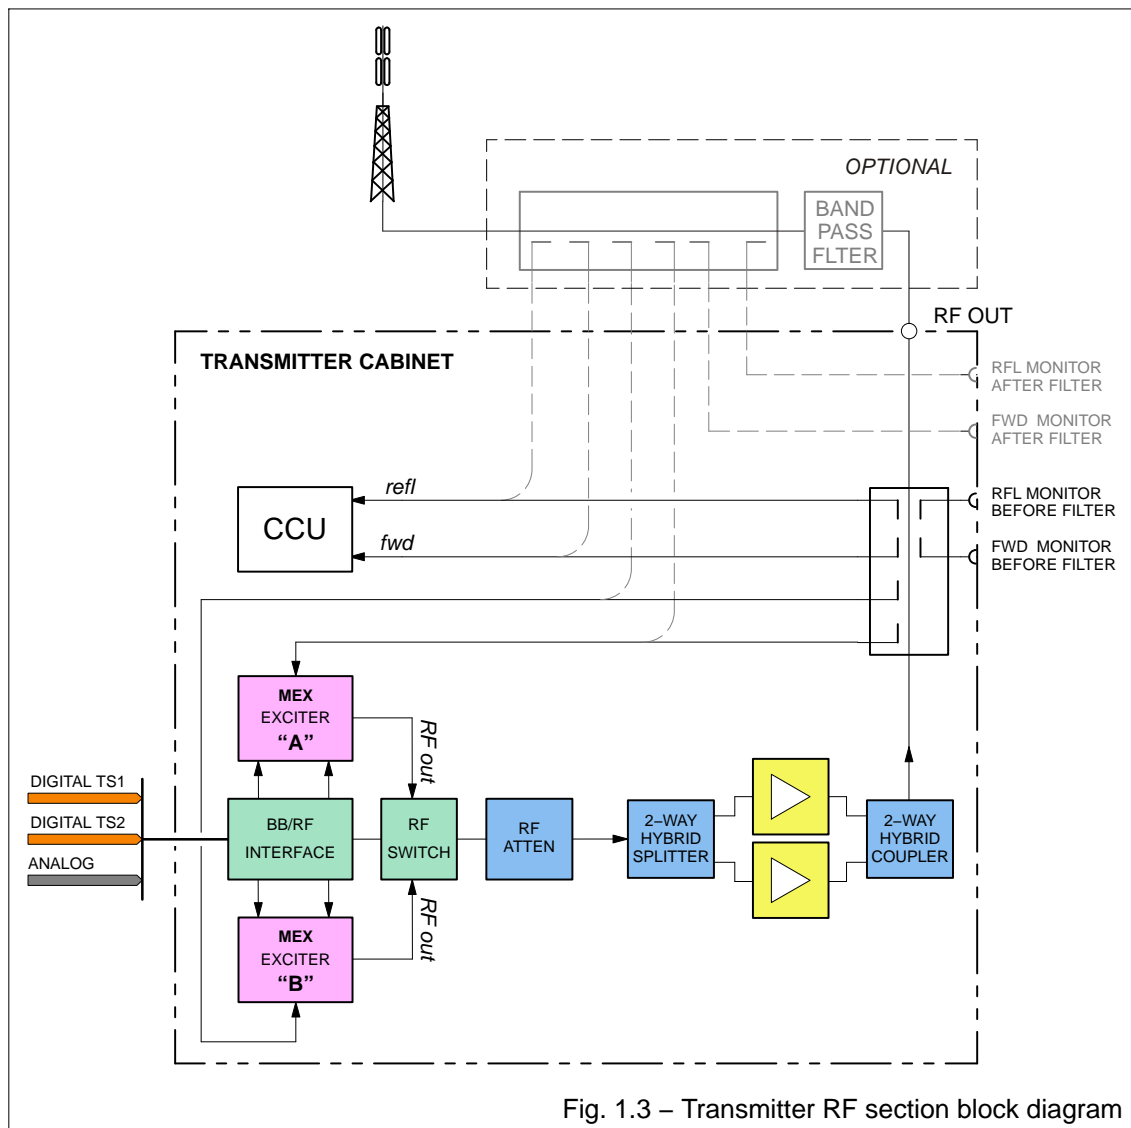

Fig. 1.3 – Transmitter RF section block diagram
- Fig. 1.3 block diagram of transmitter RF section;